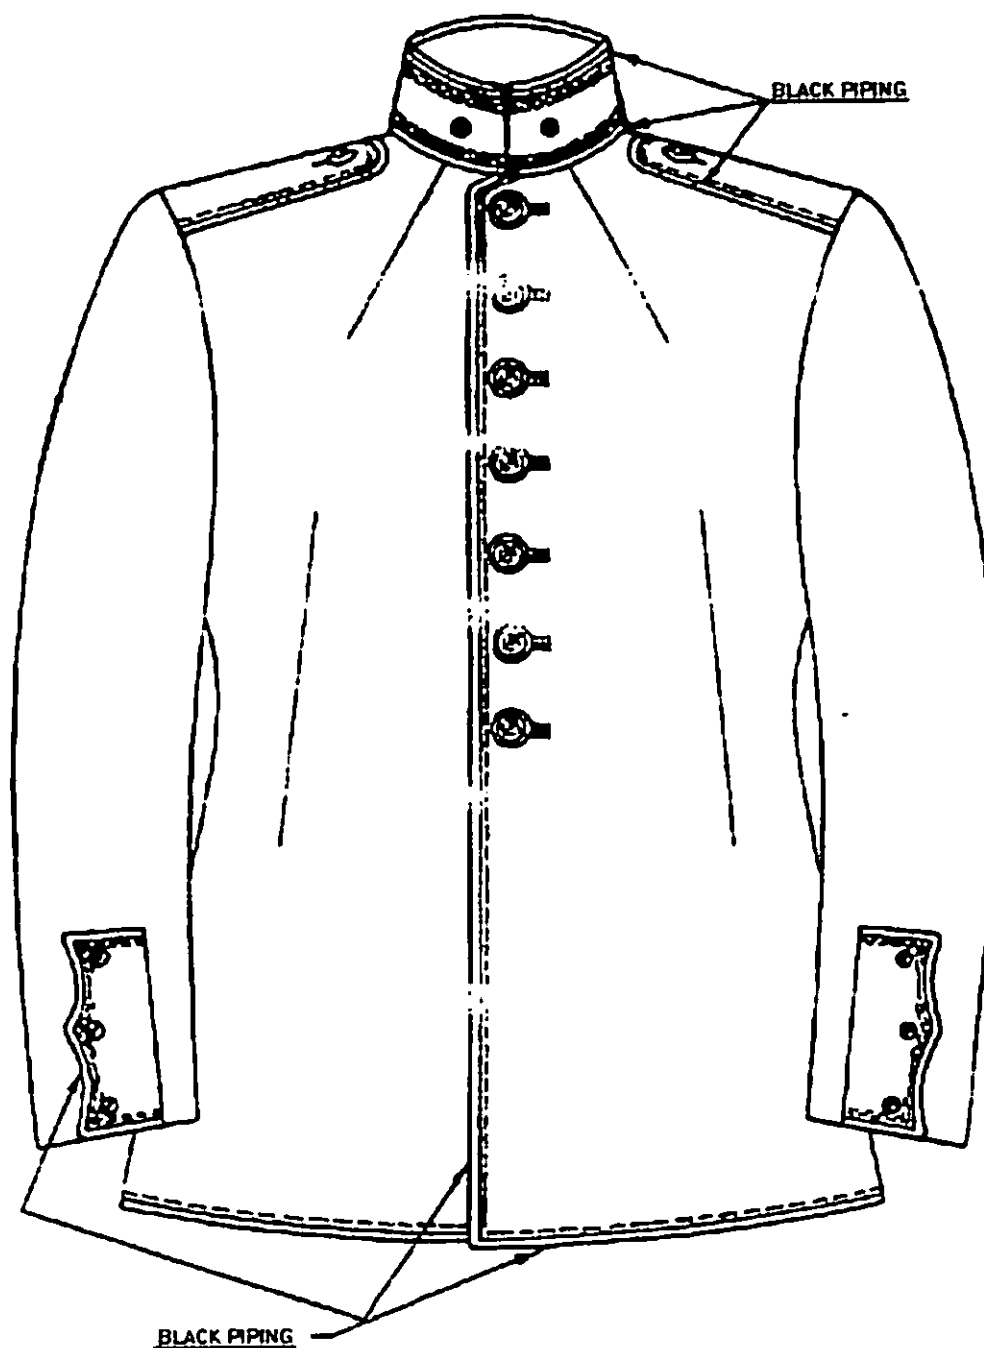

Figure 1. Coat, Man's, Scarlet, Drum
6.4. Figures. Figures 1 through 6 are furnished for information purposes only. To the extent of any inconsistencies between the written specification and the figures, the written specification will govern.